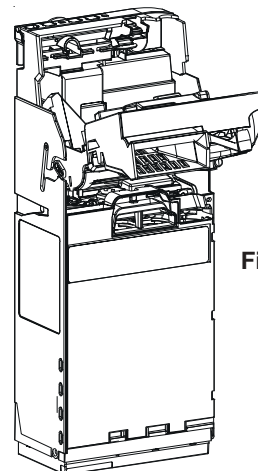

Fig. 1
- Push and hold the yellow button on the top right (below reject lever) of the coin manager and tilt the acceptor assembly forward. You do not have to remove the cassette (See Fig 1).